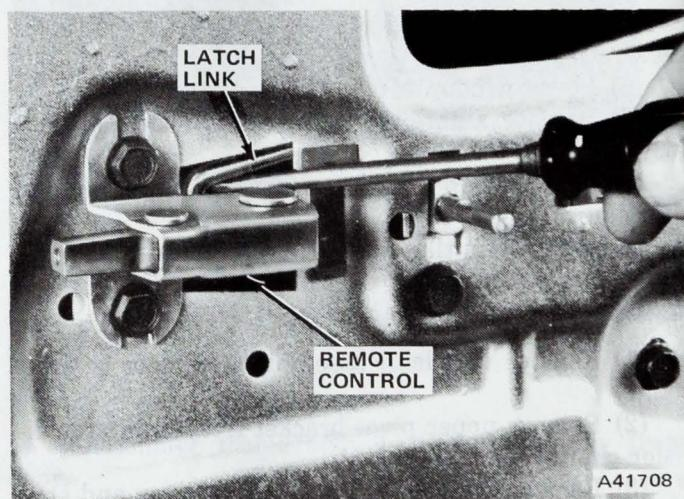

Fig. 3J-51 Remote Control Link Removal—Matador
- (1) Remove door trim panel and water dam paper.
- (2) Remove remote link from remote control by prying up link (fig. 3J-51).
- (3) Remove remote control attaching screws and remote control (fig. 3J-46).